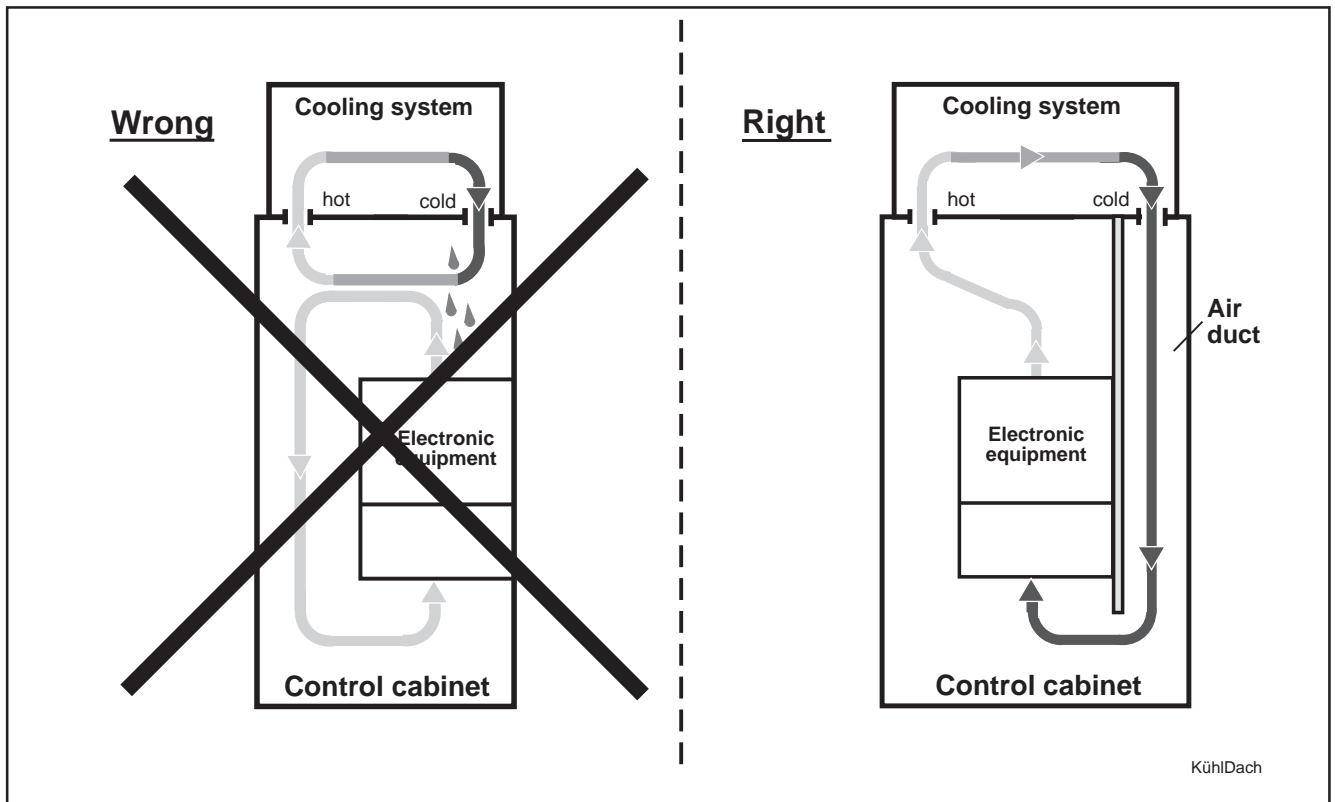

Fig. 12.1: Arrangement of cooling system on top of the control cabinet
- Always arrange cooling systems such that condensation water cannot drip down onto installed controllers. If cooling systems are to be mounted on top of control cabinets, the cabinet must be specially designed (see Fig. 12.1)!